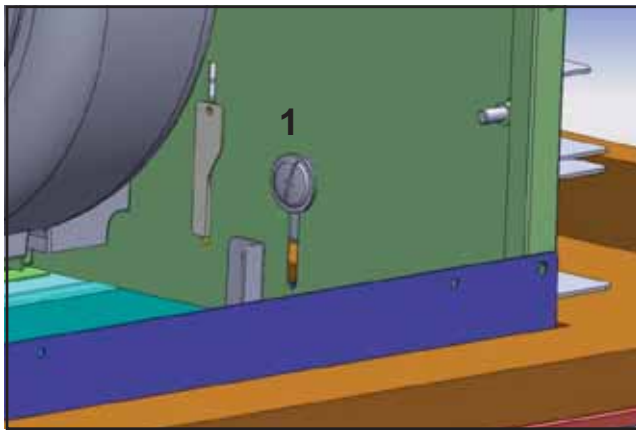

Fig.7
- 6) From inside the hood, secure (1) M4x8 screw into each lower installation bracket. The position of this screw is adjustable to accommodate various cabinet bottom thicknesses, Fig.7. Do not fully tighten screw yet.